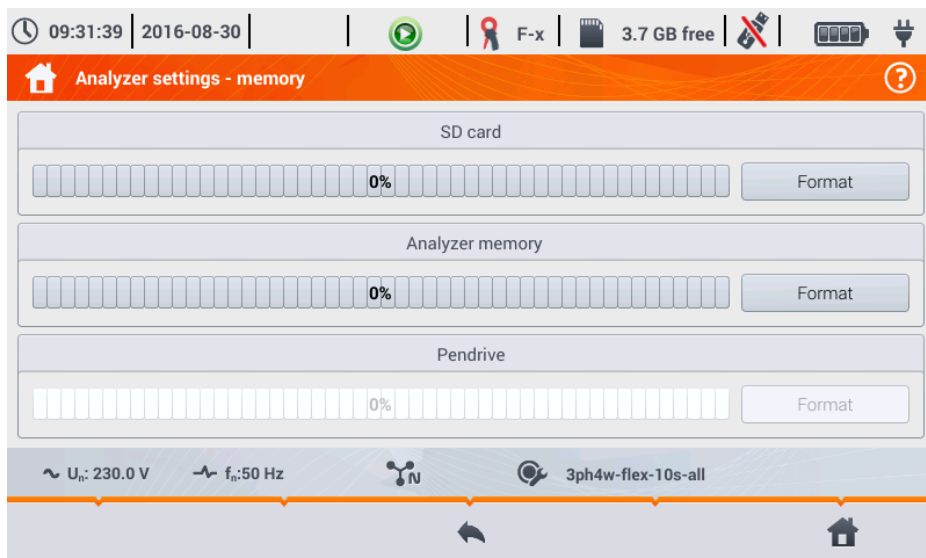

Fig. 15. Analyzer settings - Memory.
- **MEMORY** – displays information on the space on SD memory card, internal memory of the analyzer and possibly on a connected USB storage device (flash drive) (Fig. 15). Each of these three memories may be formatted by clicking **FORMAT** button. After acknowledging